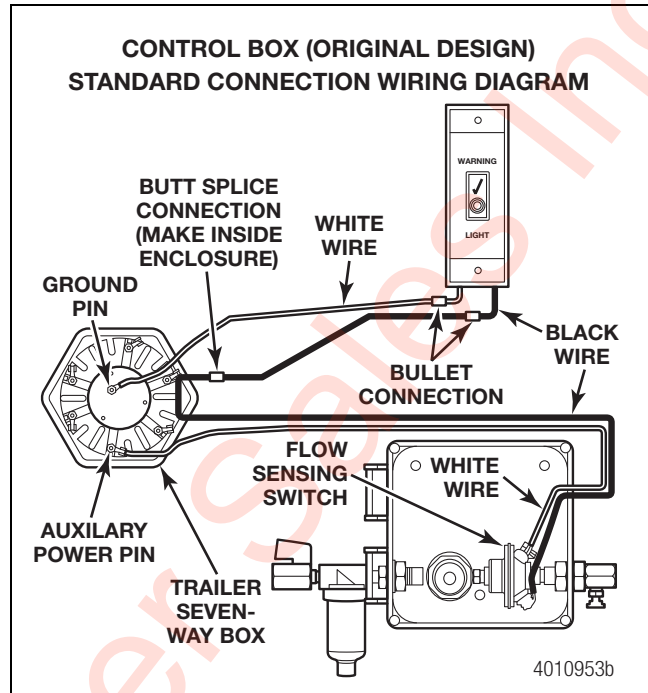
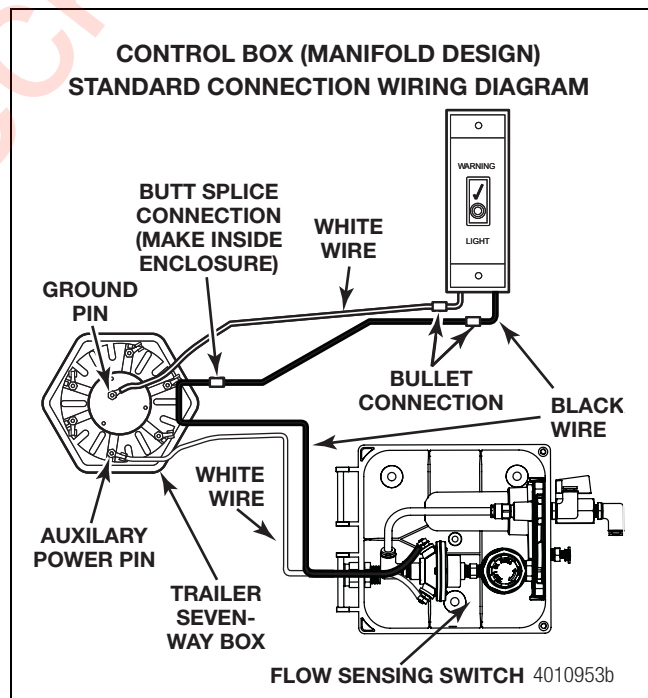

Figure 2.71
Figure 2.72
8. In the trailer seven-way box, connect the supplied eye connectors to the white wires, one coming from the warning light and one coming from the control box. Figure 2.71 and Figure 2.72.